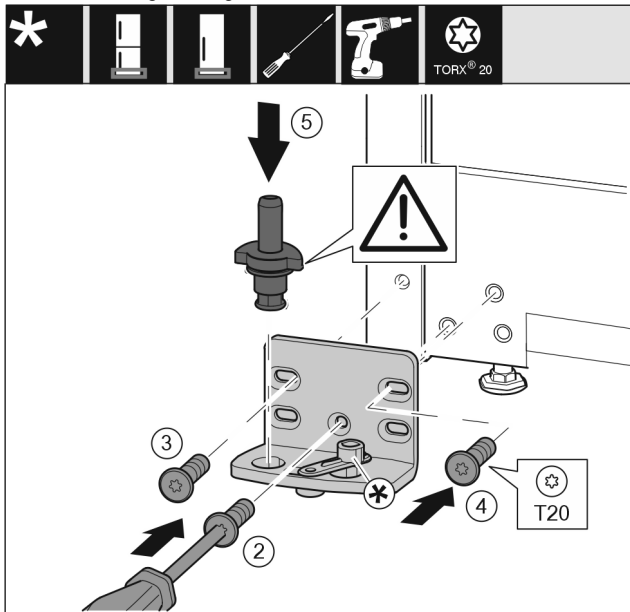

Fig. 13
- Place the bearing bracket on the other side and screw it on with a T20 screwdriver. Start with screw 2 at the bottom in the middle. Fig. 13 (2)
- Screw in screws 3 and 4 tightly. Fig. 13 (3,4)
- Insert the bearing pin completely. Make sure that the latching lug is pointing to the rear. Fig. 13 (5)